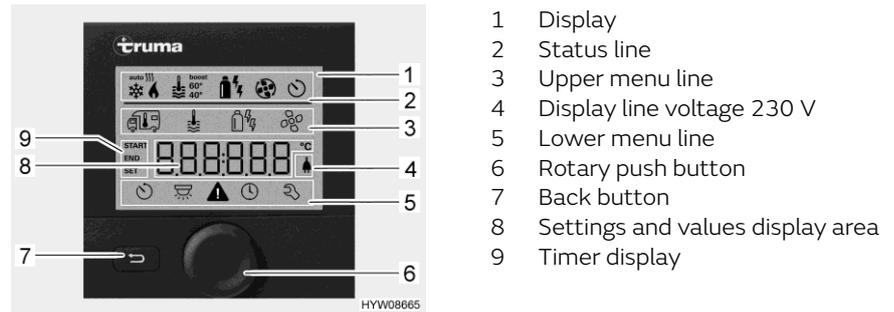
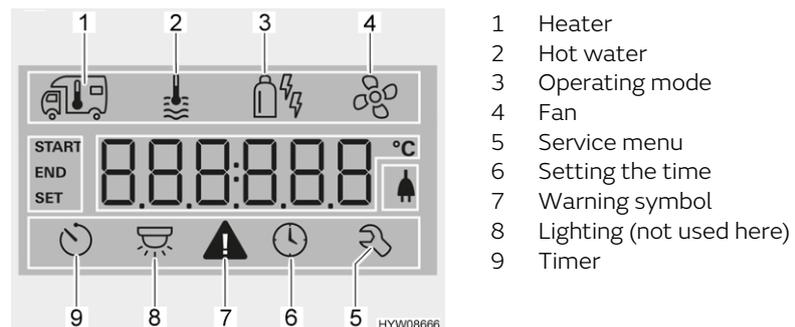

Fig. 106 Operating unit with displays
Fig. 107 Display (operating unit)
- Status line (Fig. 106,2)
- Upper menu line (Fig. 106,3)
- Display area (Fig. 106,8)
- Lower menu line (Fig. 106,5)
- Press and hold the rotary push button (Fig. 106,6) for approx. 3 seconds. Both menu lines (Fig. 106,3 and Fig. 106,5) are displayed. The first symbol flashes.
- Turn rotary push button (Fig. 106,6) until the required menu symbol flashes.
- Press rotary push button to save the value set. If you do not wish to change the value originally set: Press back button (Fig. 106,7).
- Turn rotary push button (Fig. 106,6) until the heater menu symbol (Fig. 107,1) flashes.
- Press rotary push button to save the value set. The symbol in the status line (Fig. 106,2) flashes until the room temperature set is reached. If you do not wish to change the value originally set: Press back button (Fig. 106,7).
- Turn rotary push button (Fig. 106,6) until the hot water menu symbol (Fig. 107,2) flashes.
- Press rotary push button to save the value set. The symbol in the status line (Fig. 106,2) flashes until the hot water temperature set is reached. If you do not wish to change the value originally set: Press back button (Fig. 106,7).
- Turn rotary push button (Fig. 106,6) until the menu symbol operating mode (Fig. 107,3) flashes.
- Press the rotary push button to save the set operating mode. To revert to the original setting: Press back button (Fig. 106,7).
- Turn rotary push button (Fig. 106,6) until the fan menu symbol (Fig. 107,4) flashes.
- Turn rotary push button (Fig. 106,6) until the timer menu symbol (Fig. 107,9) flashes.
- Press rotary push button. The timer is activated. The timer symbol (Fig. 107,9) flashes when the timer is programmed and active.
**Fault display** The warning symbol (Fig. 107,7) flashes in the event of a warning. The heater continues to operate. In the event of only a temporary fault, the warning symbol goes out automatically.